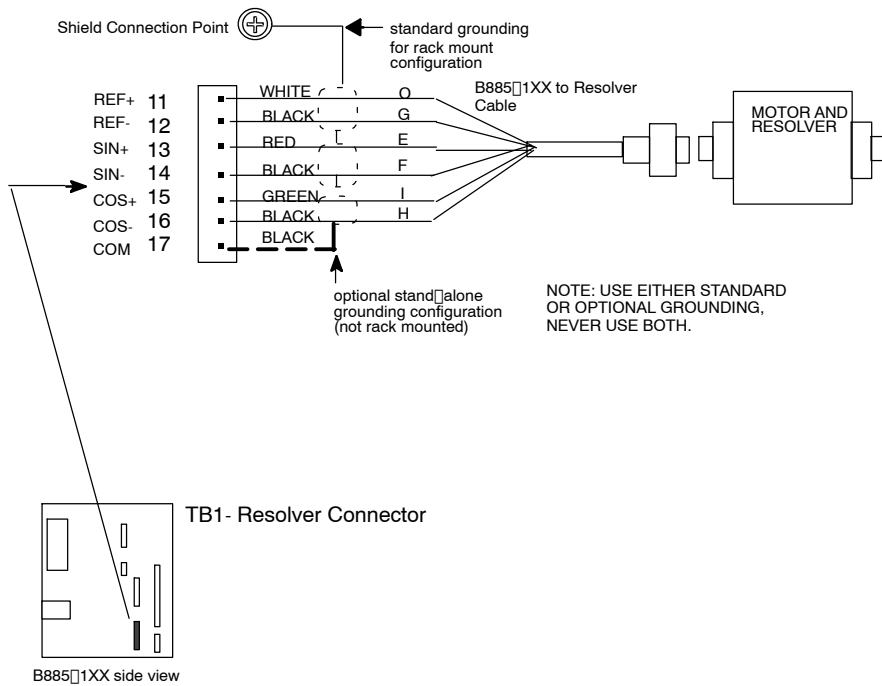

Figure 11 TB1 Resolver Typical Wiring
Step 12 Wire the reference outputs (REF+ and REF-) from the B885-1XX connector TB1 (pins 11 and 12) to the resolver connector. Refer to Figure 11.